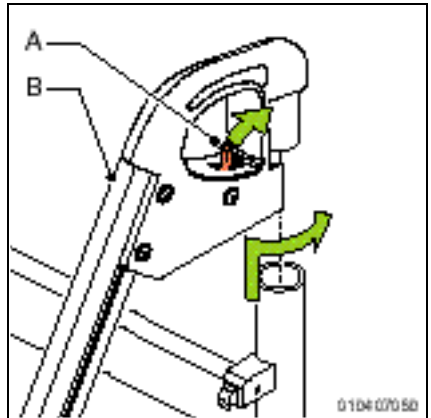

Figure 35
2. Push the catch (A) to the rear in order to unlock the leg rest (figure 35).
4. Remove the leg rest (B) from its bracket by lifting.